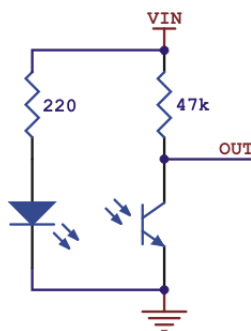

Figure 1: Unit Circuit for Distance Sensor copied from Reference[11]
- Implement the circuit shown in figure 1 on a proto-PCB.